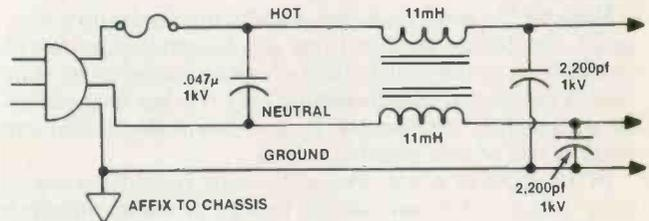

Figure 2. RFI line filter, good for 1~100MHz
Noise entering via the power line can be reduced by adding a couple of chokes and capacitors. See Figure 2. You can't assume that just because a piece of equipment is expensive, and was manufactured by a major electronics company, it has proper line filtering. As a matter of fact, it probably doesn't. Quite often, the power transformer offers the only protection from RFI. Noise filters that plug in on the receptacle end are not always effective, especially if the ac cord itself is acting like an antenna. One thing you can try that does not require internal modifications is to wrap several turns of the line cord around a ferrite core such as is found in most AM radios. A piece of tape serves to secure it in place. This works most effectively in the AM (MW) frequency band.
If you wanted to convey the number 2, you could simply light up the rightmost two bulbs, Figure 2. With a scheme such as this, you could represent a number up to 8 with your eight light bulbs. Not a very economical scheme if you'd like to represent numbers that run up into the thousands.
Figure 2. One way of representing the number 2 is to light two lamps. Using a scheme such as this, you could be able to represent up to the number 8 using eight lights.